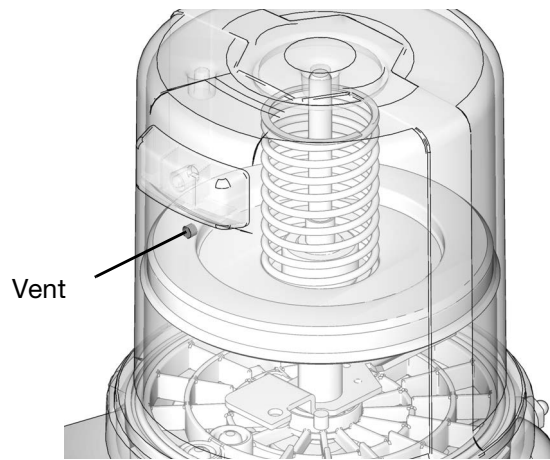

FIG. 26
3. Fill reservoir with grease until seal of follower plate breaches the vent hole (FIG. 26) and the majority of air is expelled from the reservoir.